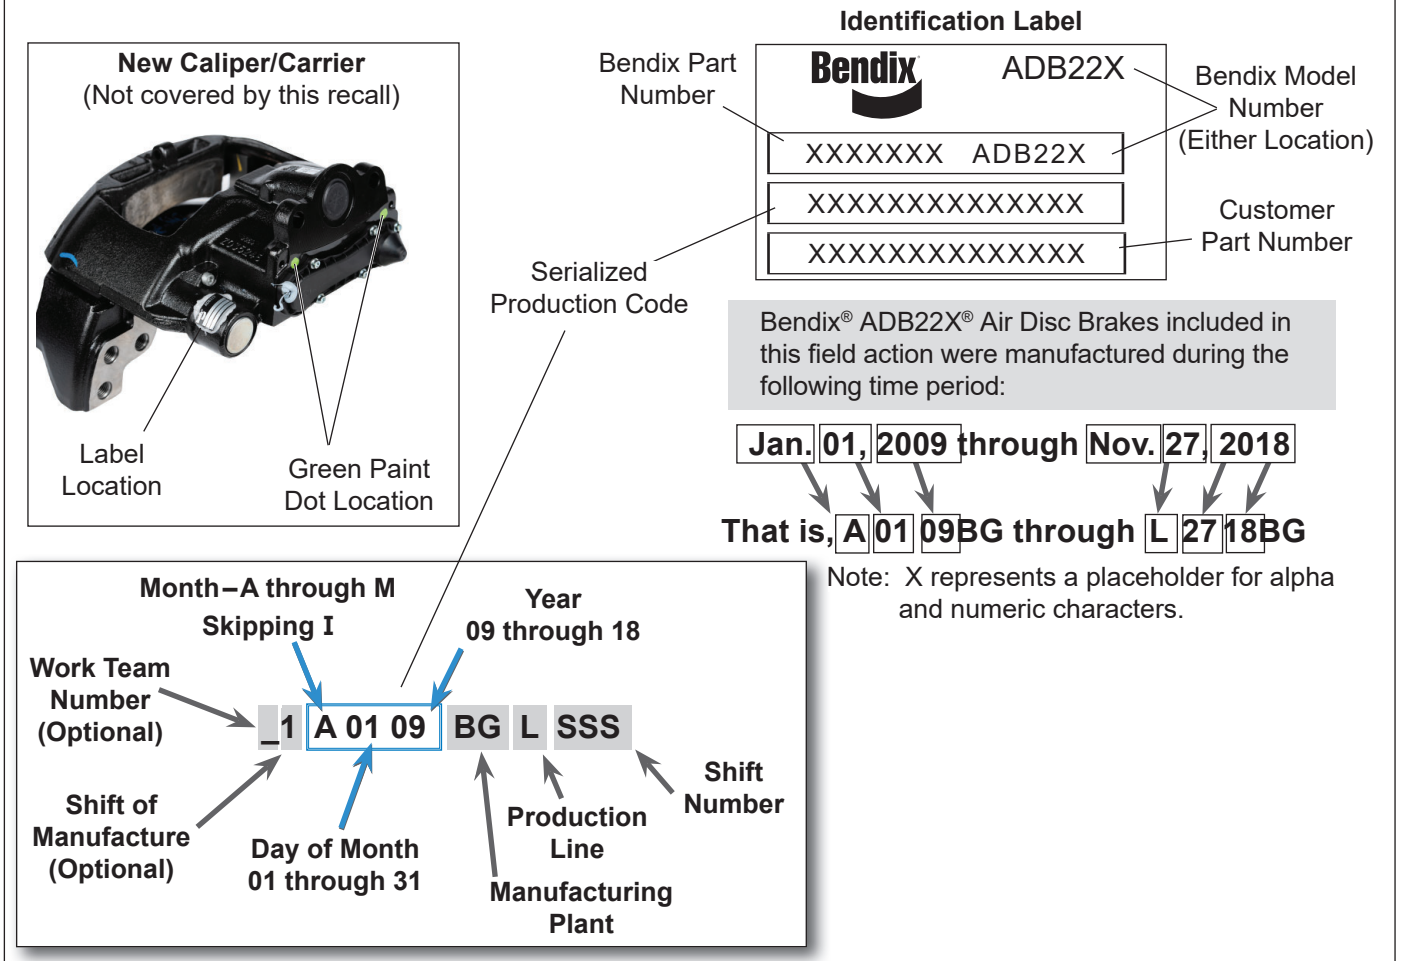

Figure 2 – Bendix® ADB22X® Air Disc Brake Identification Label
4. Verify the caliper/carrier is a part of the recall campaign by checking for a **green paint dot** in the location shown in Figure 2. This green dot indicates that the Bendix® ADB22X® Air Disc Brake caliper/carrier was already replaced as a part of the recall campaign.
5. If a green dot is not visible, look for the part number label on the caliper as shown in Figure 2. This may require the removal of paint and road debris to clearly identify the brake assembly. Go to the *Identification Label* section for interpretation of the identification label.
The identification label contains the part number, brake model, serialized production code, and, in some cases a customer part number. See Figure 2 for the interpretation of the identification label.